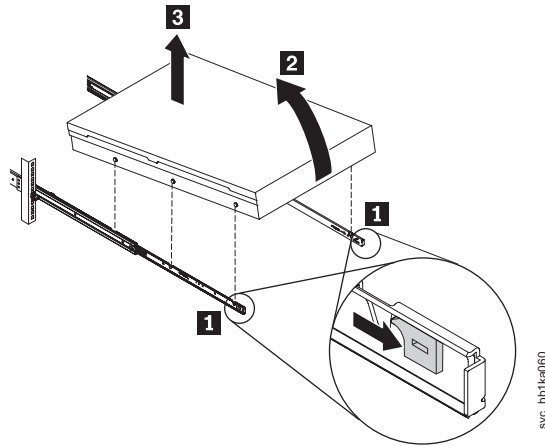

Figure 32. Removing the 2145-CG8 or 2145-CF8 from the rack
4. Pull forward the two white catches (**1** in Figure 32 on page 51) on the side of the rails, and lift up the front of the node very slightly.